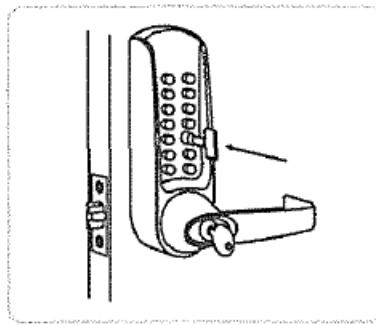

Fig 2
5. To select a button as a code button, push code tool over button. Press in button with tool approx 2mm and turn clockwise 180°. Fig 2.